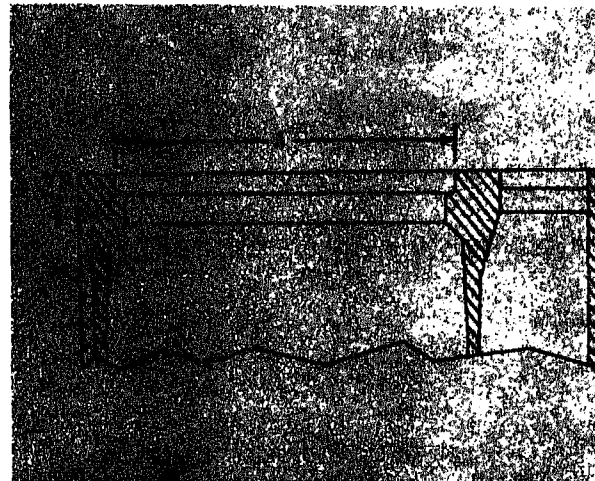

Fig. 1-1-5. Cylinder liner counterbore dimensions
1. Check upper liner counterbore diameter at four equidistant points, Fig. 1-1-5. If counterbore exceeds limits shown in Table 1-1-4 for the top 0.250 in. [6.3500 mm] depth, machine block for machining for oversize flange liners.